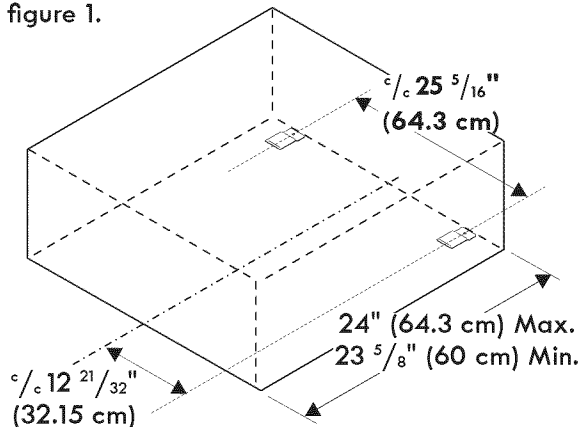

Figure 1
1. Locate the 2 anti-tip brackets supplied as shown in figure 1.